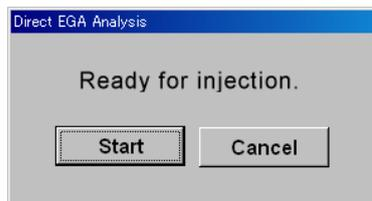

Fig. 4.16 Dialog box showing start of Direct EGA Analysis
- (5) Place a sample in a sample cup and attach it to the sampler. Attach the sampler to the pyrolyzer and wait two minutes in order to purge the air in the dead space before proceeding.
- (6) Click "START" button.
- (7) When the GC, pyrolyzer furnace, interface, and Selective Sampler are all READY, the dialog box shown in Fig. 4.16 will be displayed. Immediately drop the sample cup into the furnace; click the "Start" button in the dialog box or hit "ENTER" key on the PC keyboard.